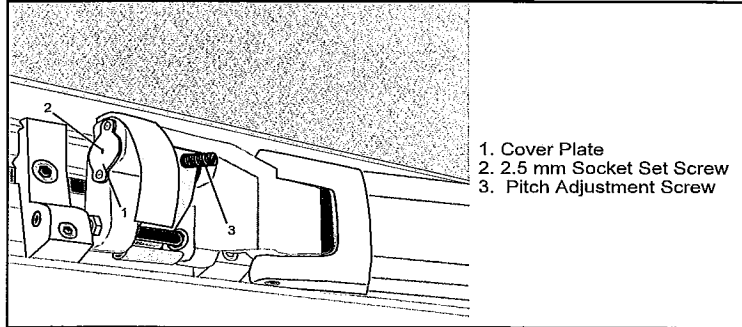

Fig. C1 - Right arm bracket
1. Insert 2.3 mm hex key into plate hole (#2 Fig. C1) and turn counterclockwise 2 turns to free pitch adjustment screw.
2. Lower arm (to provide access to screw) by using slotted screwdriver and turn Pitch Adjustment Screw (#3 Fig. C1) clockwise (screwing in) until top is flush with casting.